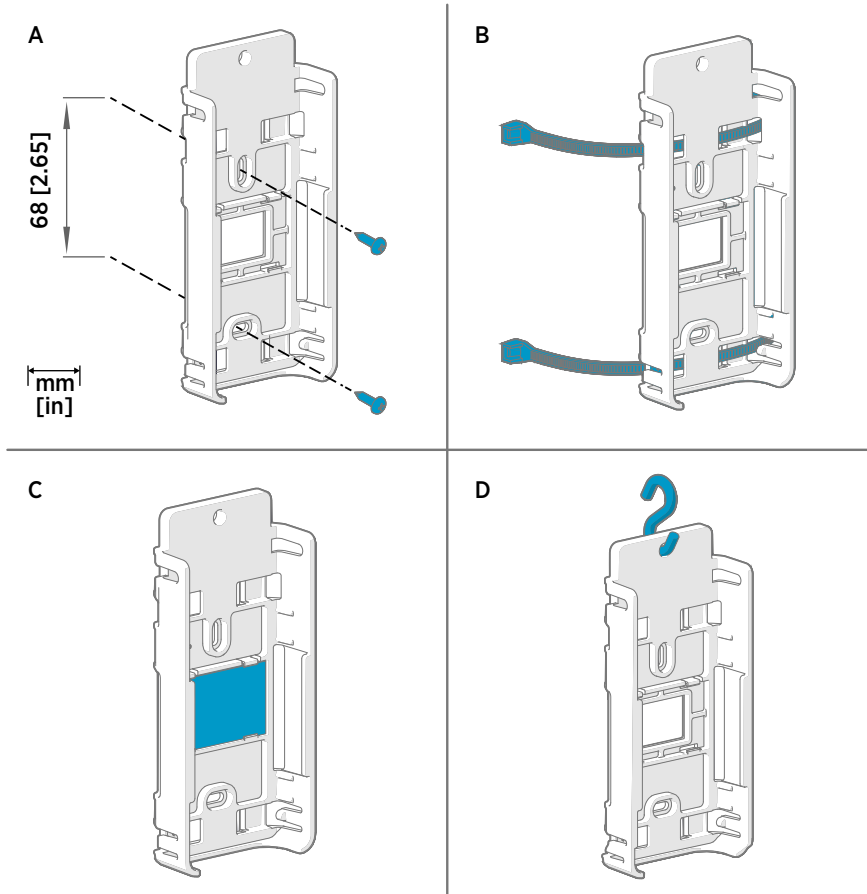

Figure 7 RFL100 Mounting Methods
2. Attach the mounting bracket using one of the mounting methods shown in Figure 7 \(page 19\). Orient the bracket vertically so that the probe or probe cable points down after installation. Do not attach the RFL100 without the mounting bracket.